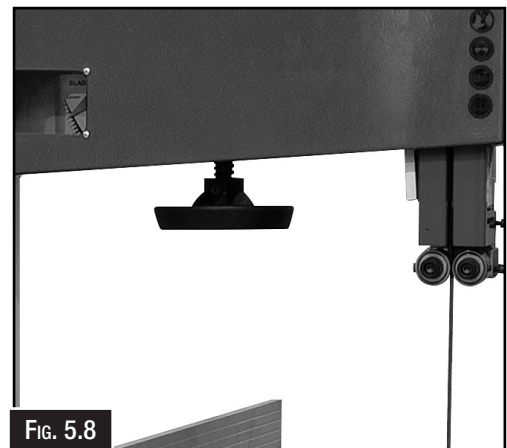
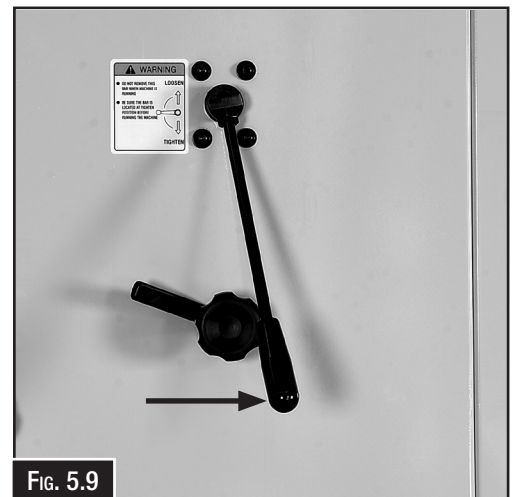

FIG. 5.8
FIG. 5.9
2. Release the blade tension by turning the blade tension hand wheel (Fig. 5.8) or turn the quick release lever to the left.(Fig. 5.9)